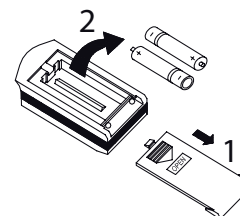

Fig. 1
1. Lightly press the place marked  in the direction of the arrow to remove the back cover of wireless remote control unit. (Fig. 1)
2. Remove the old batteries. (Fig. 1)